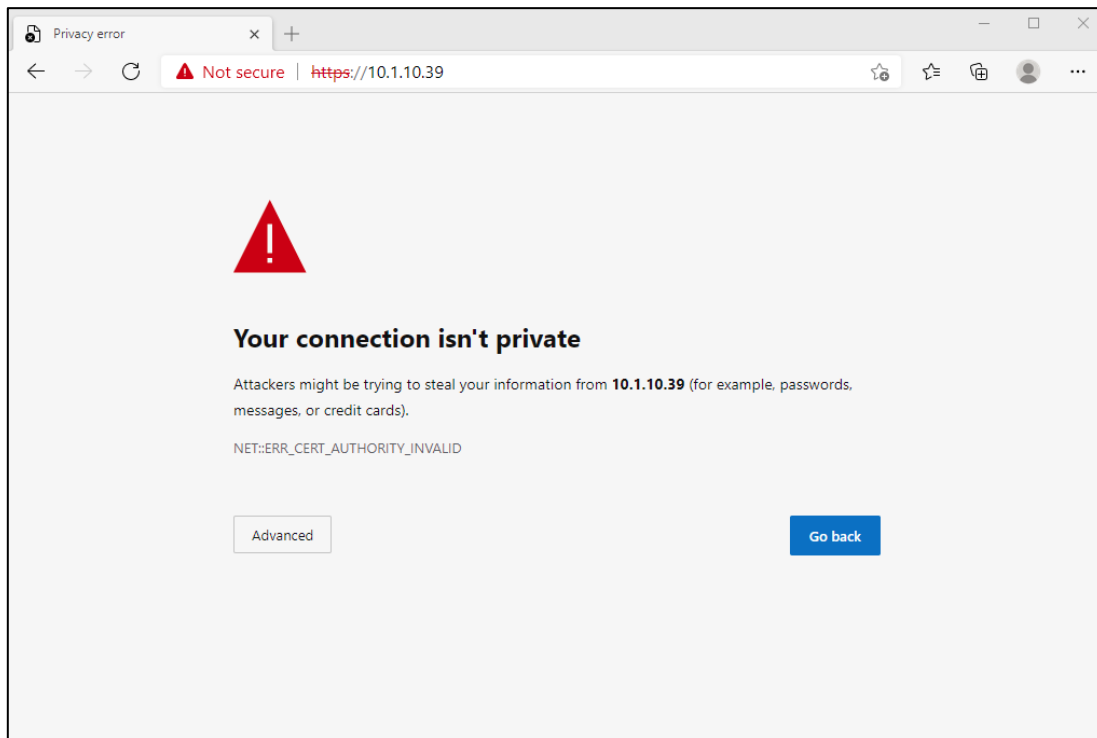

Figure 108: Accessing the built-in web server ("This site is not secure").
4. The browser might show you a warning about an invalid web server certificate, as illustrated in Figure 108. Make sure, that you have typed in the correct IP address.